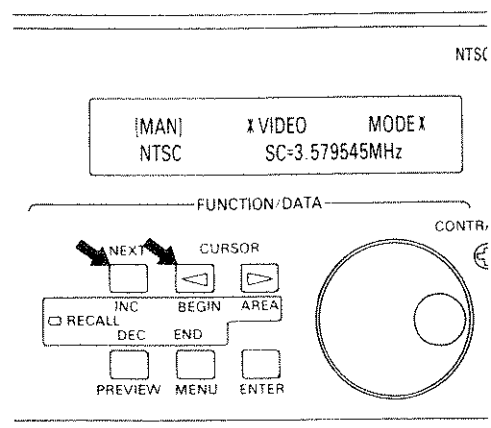

Figure 4.31
4.11.1 Function Keys Usages (See Figure 4.31)
4.11.2 Symbols Displayed on the LCD Panel (See Figure 4.31)